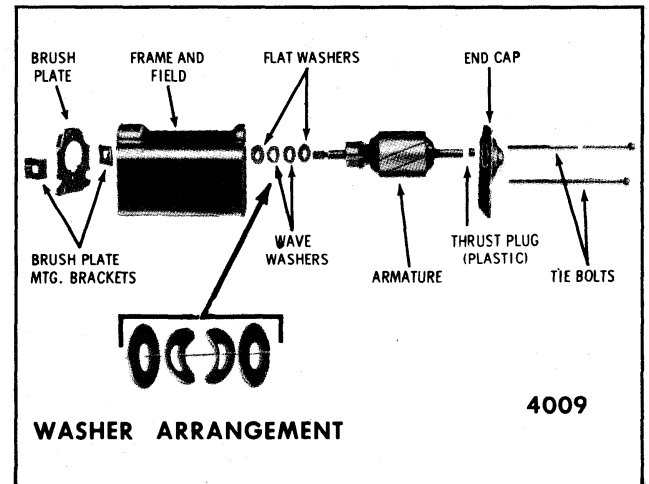

Fig. 2-17-Wiper Motor - Exploded View
2. Remove motor tie bolts (Fig. 2-17).